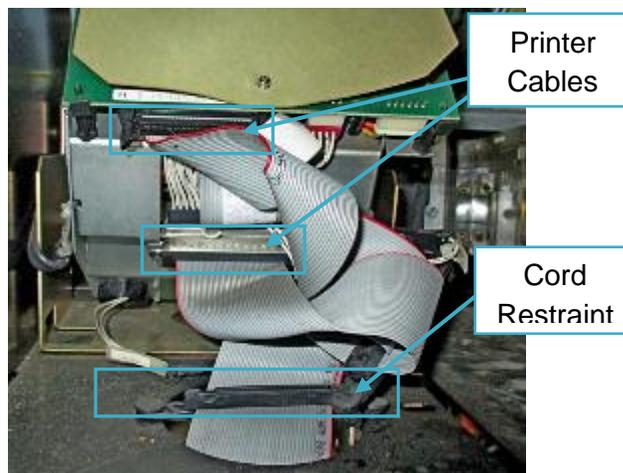

Fig. 1.16 – Remove printer cables and cord restraints
- 15.** On the opposite side of the dispenser open the right-hand door using the same techniques outlined in steps 4 & 5 above. From that side, unplug the printer's data and power cables. Remove or unfasten any cord restraints that may be attached to the printer's cable assemblies. (Fig. 1.16)